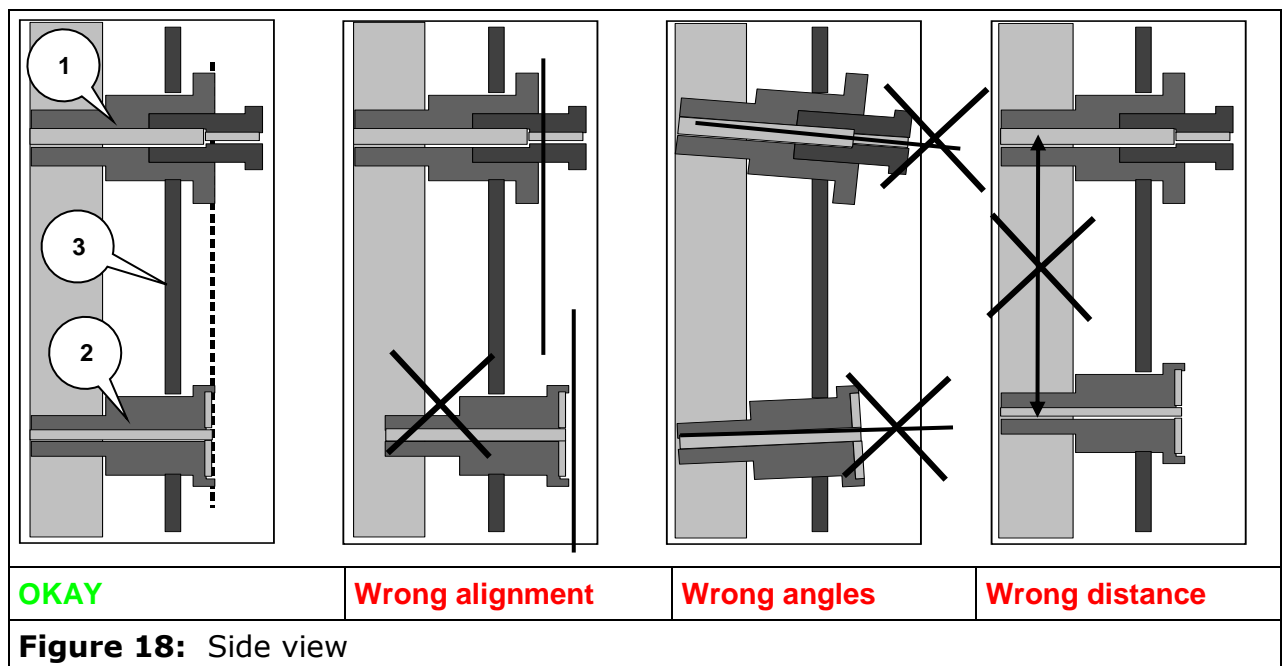

Figure 18: Side view
- Avoid wrong alignment, wrong angles and incorrect distances (see Figure 18)